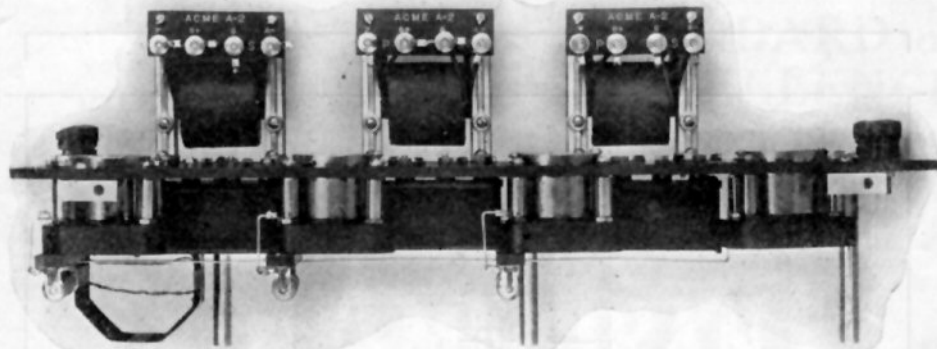
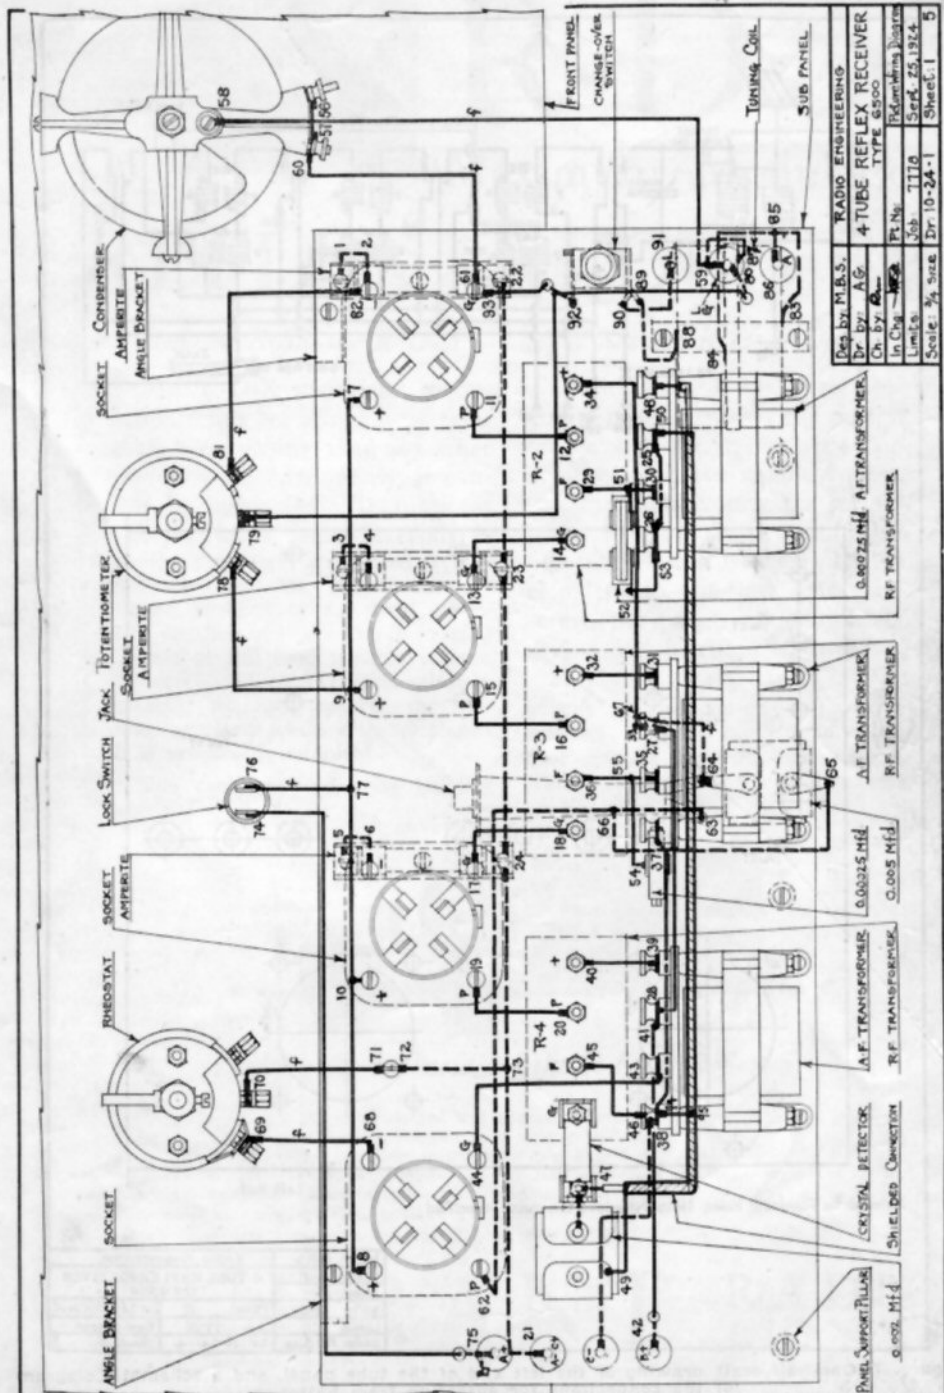

Fig. 3. Looking at the front of the tube panel before it is mounted on the front panel.
Fig. 6. Picture wiring diagram. The tube panel is tipped down to show the parts mounted on it.
1. Remove the thumb nuts from the binding posts on the sockets and put, in their places, coil mounting pillars. Referring to the picture wiring diagram, Fig. 6, put lugs under the pillars on the socket binding post screws for connections 2, 4, and 6. Fasten the Amperite mountings underneath the three right hand sockets. You can see the arrangement in Figs. 3 and 9. Use 1-in. 6-32 R.H. screws and nuts, clipping off the extra lengths of the screws. Mount the sockets underneath the tube panel with the terminals in the positions shown in Fig. 6. Use  $\frac{1}{2}$ -in. 6-32 R.H. screws. One lug is required under the head of each screw except on the G post of the right hand socket which takes two. Note also that a lug must be put between the pillar and the underside of the panel on the P terminal of the left hand socket, connection 62. Remove the thumb nuts from the terminals on the R.F. transformers and mount the transformers underneath the tube panel, fastening them by putting 6-32 nuts on the screws on the top of the panel. Each of these terminals takes one lug except the G binding post on the R4 transformer at the left. Break off the fibre base from the Rusonite fixed detector mounting, and fasten one of the clips under the nut on the G terminal of